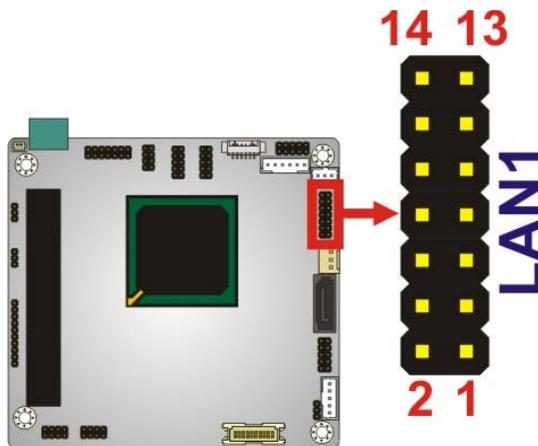

Figure 3-10: LAN Connector Location
- CN Location:** See **Figure 3-10**